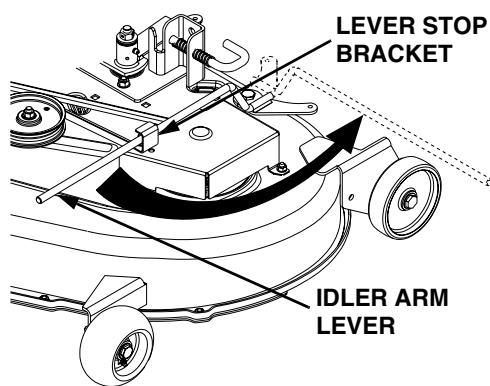
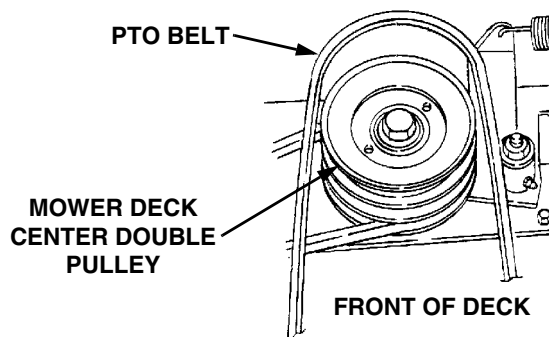

Figure 34
Figure 35
2. Lower the tractor implement lift handle to its lowest setting. Disengage the deck idler arm lever from the stop bracket and release the spring tension by rotating the lever out and rearward (Refer to Figure 34).
3. Remove the rearward end of the PTO belt from the upper pulley of the deck center double-pulley (See Figure 35). Engage the deck idler arm lever back into the stop bracket (Refer to Figure 34).